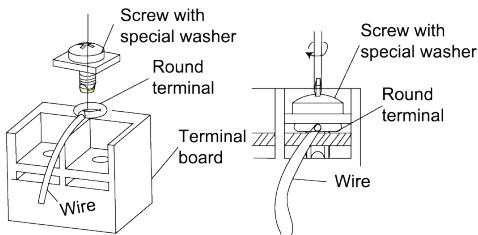

Fig. 4.36
- 4) Position the round terminal wire, and replace and tighten the terminal screw with a screwdriver. (Fig. 4.36)